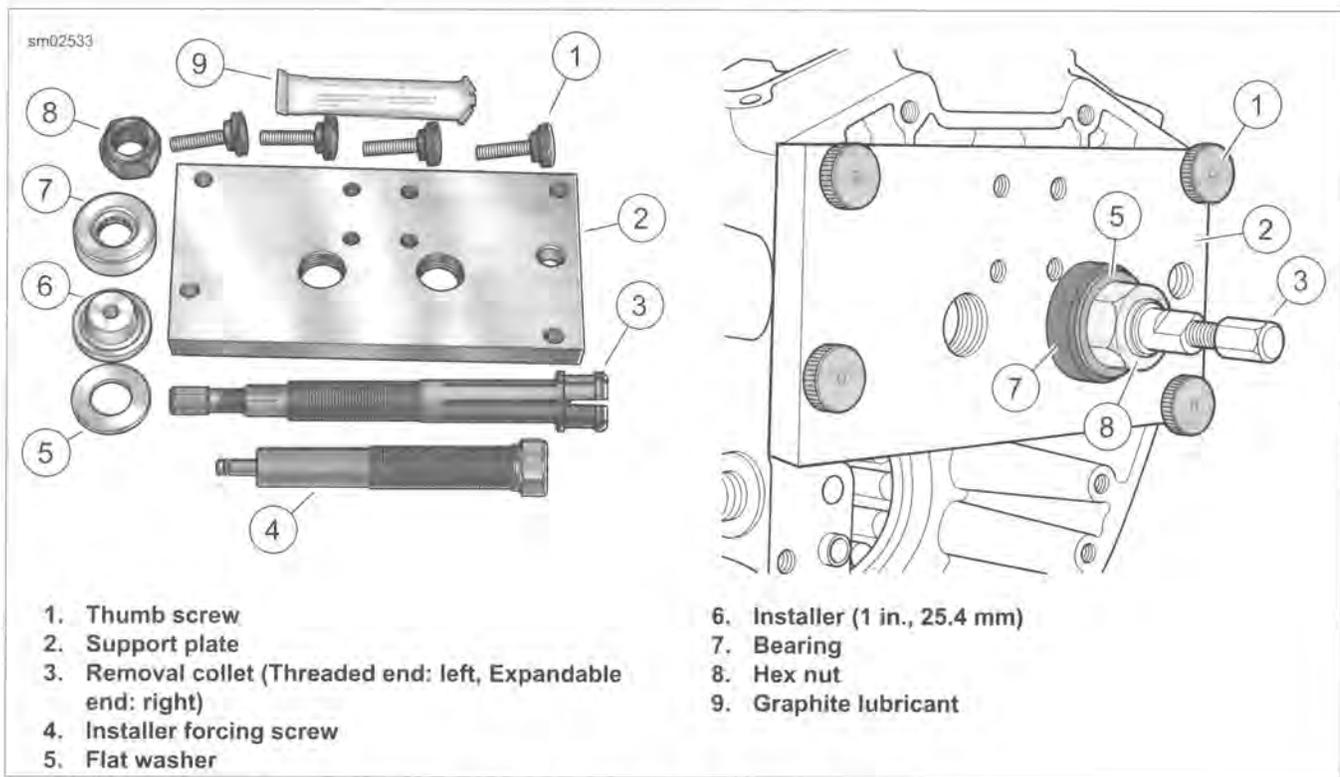
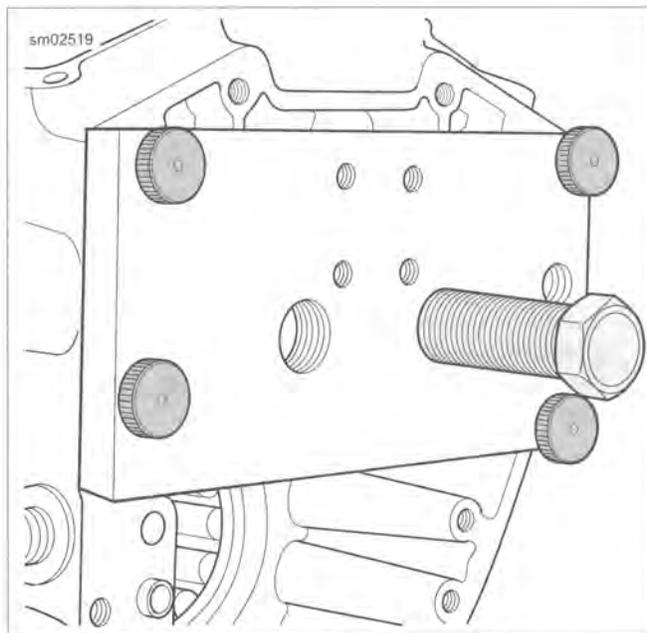

Figure 3-99. Camshaft Needle Bearing Remover/Installer
Figure 3-102. Installer Forcing Screw Installation
2. See Figure 3-99. Remove four thumb screws (1) from threaded holes in support plate (2), if installed.
3. Sparingly apply clean engine oil (9) to threads of collet (3) to prolong service life and verify smooth operation.
7. Center expandable end of collet in bearing bore and slide bearing (7) and flat washer (5) on threaded end. Start hex nut (8) on threaded end.
4. See Figure 3-99. Sparingly apply clean engine oil to threads of installer forcing screw (4) to prolong service life and verify smooth operation.
5. Thread installer forcing screw into stamped side of support plate (2) until threads begin to emerge from opposite side.
6. Place installer (6) at end of installer forcing screw.
8. See Figure 3-102. Aligning two large holes in support plate with needle bearing bores, hang right side of plate on ring dowel in crankcase flange.